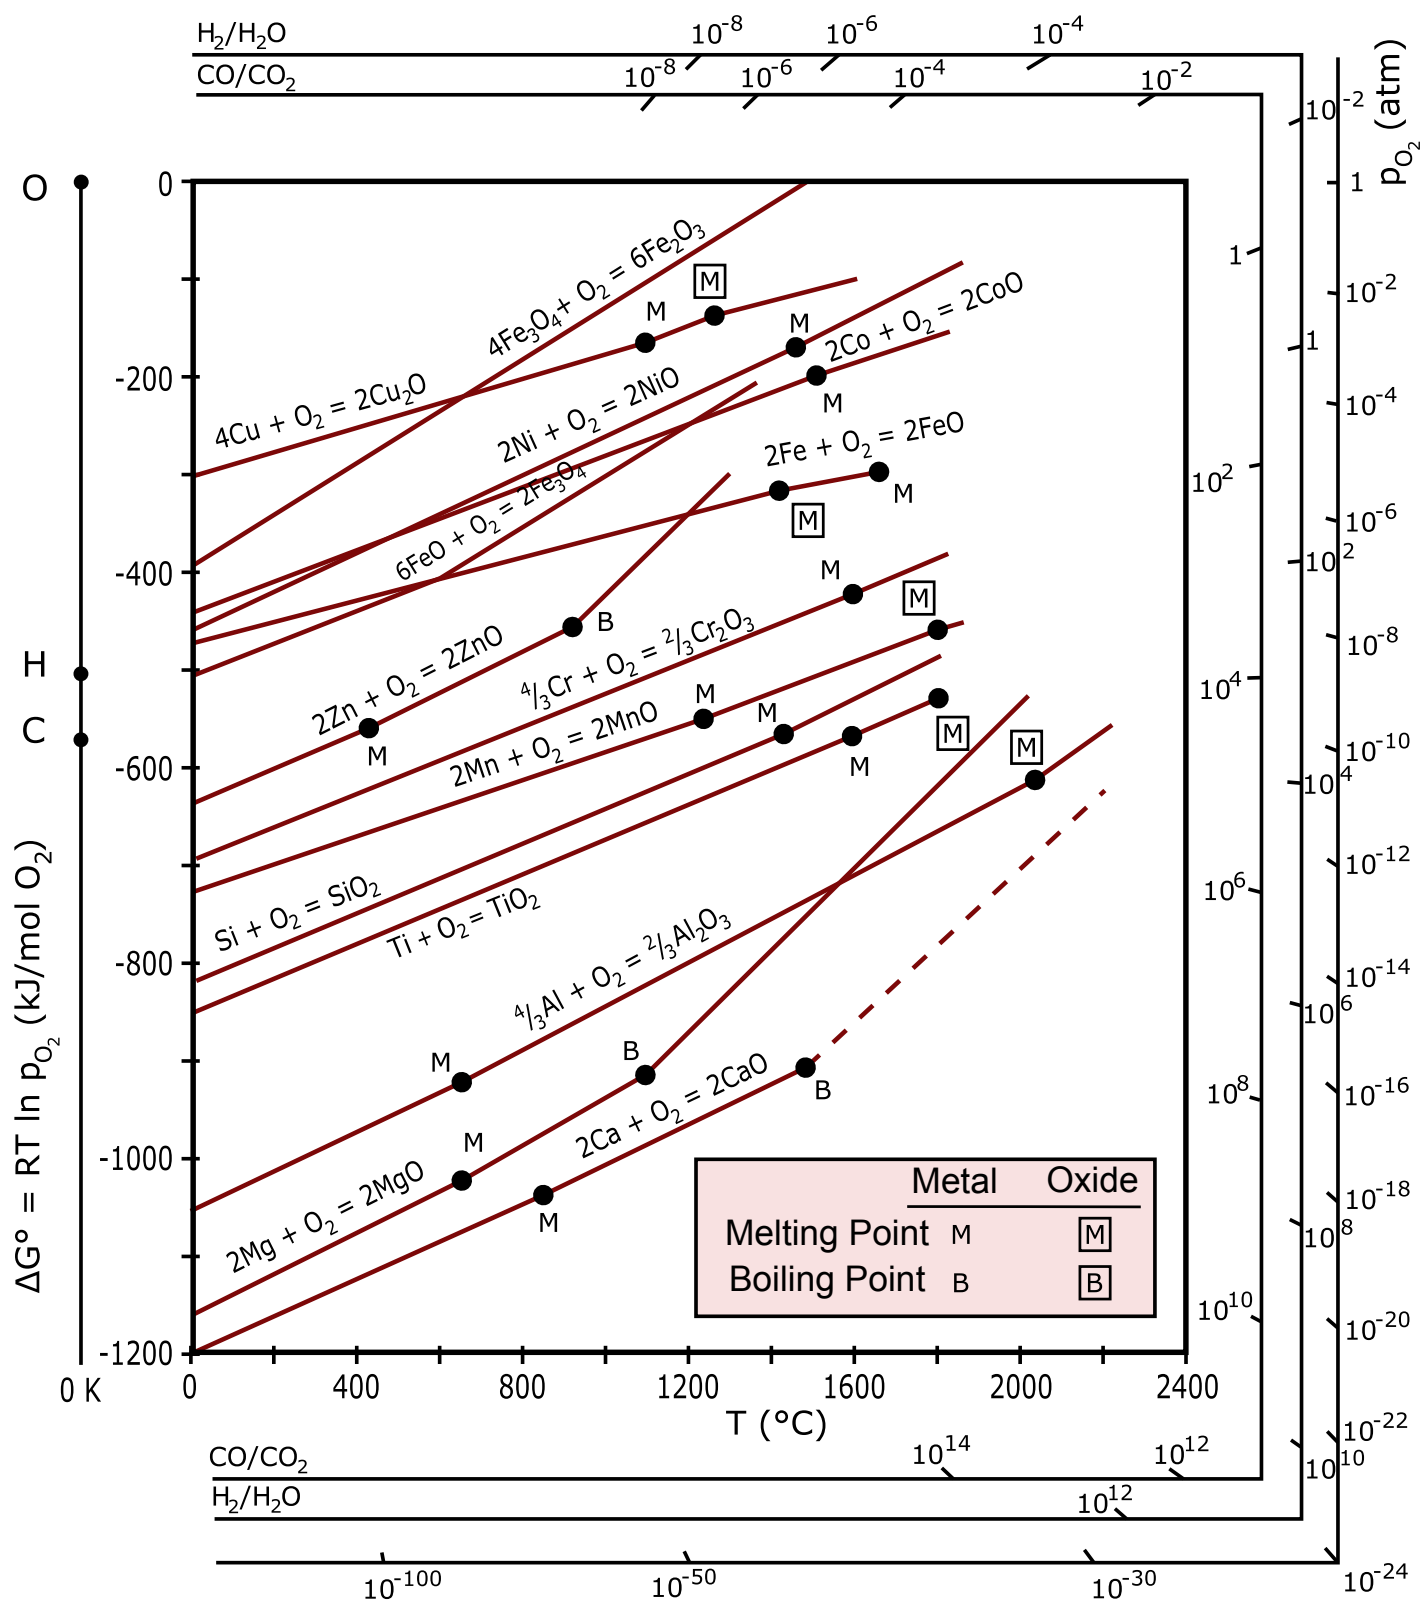

Figure .1: Ellingham diagram.
- Use the Ellingham Diagram (reproduced here as Figure .1) to answer the following.